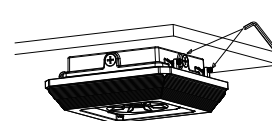

Figure 2-8
8. Lock the two cap screws, then installation is finished ; Figure 2-8